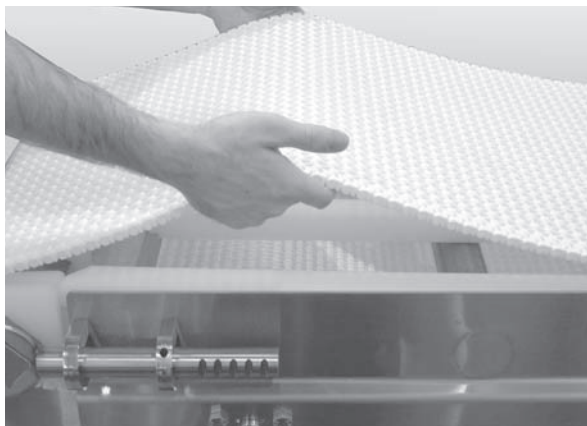

Figure 46
3. Lift up on the belt (Figure 46).